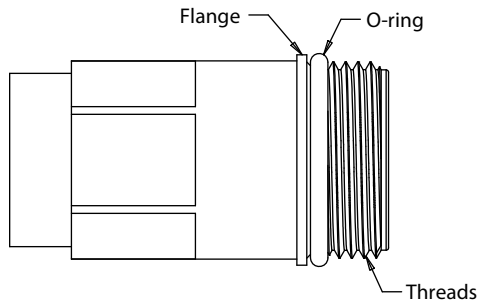

FIGURE 1
- A. Place O-ring onto thread ferrule so that it is seated behind the thread. (Figure 1)